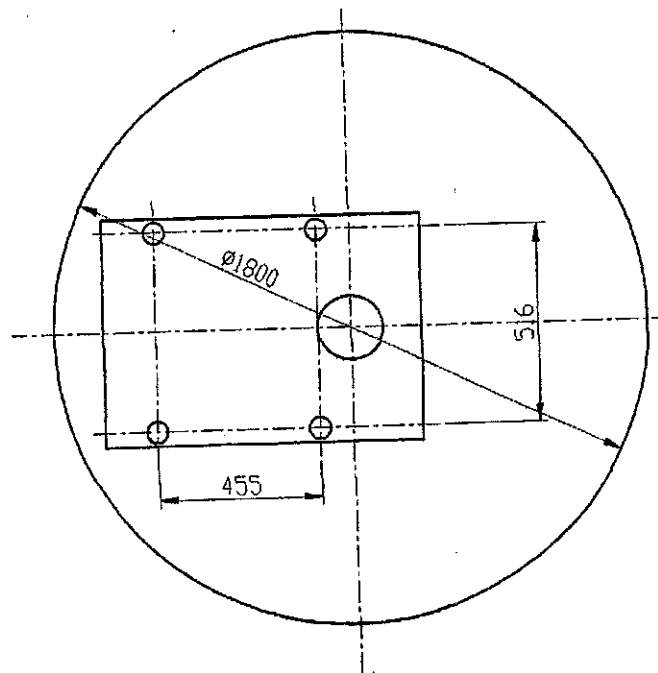

Fig. 2 Dimension of the foundation
4.2.1 Take the work table as Radius, go 360° around the column would be the max. area of the foundation. The diameter of the foundation is 1800mm. See Fig. 2. Customers can decide the Foundation area according to their own needs.